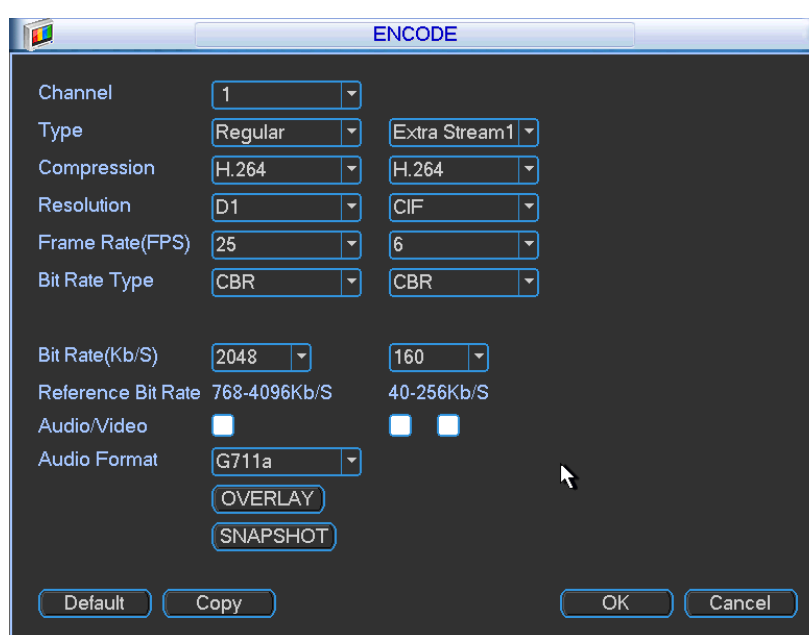
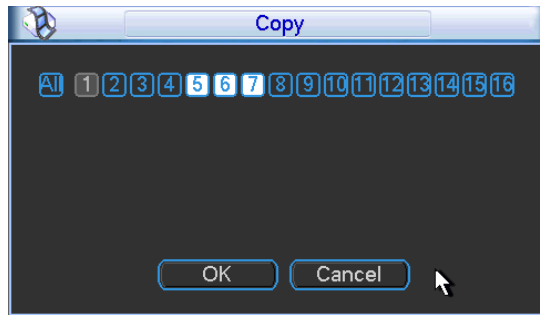
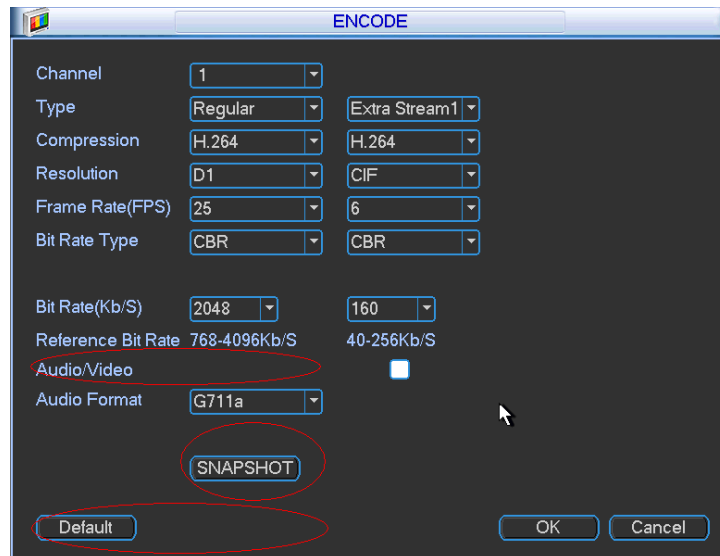

Figure 5-8
Figure 5-10
Figure 5-11
Encode setting includes the following items. See Figure 5-8.
- ✧ Copy: After you complete the setup, you can click Copy button to copy current setup to other channel(s). You can see an interface is shown as in Figure 5-10. You can see current channel number is grey. Please check the number to select the channel or you can check the box ALL. Please click the OK button in Figure 5-10 and Figure 5-8 respectively to complete the setup. Please note, once you check the All box, you set same encode setup for all channels. Audio/video enable box, overlay button and the copy button is shield. See Figure 5-11.